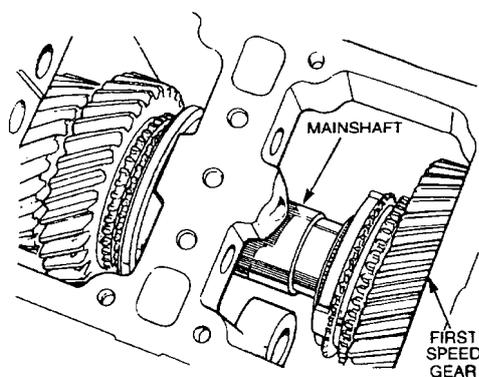

Figure 159 Removing the Mainshaft
- bb. Carefully remove the mainshaft assembly while simultaneously removing the first speed gear from the shaft (Figure 159). Lift out the first speed gear.